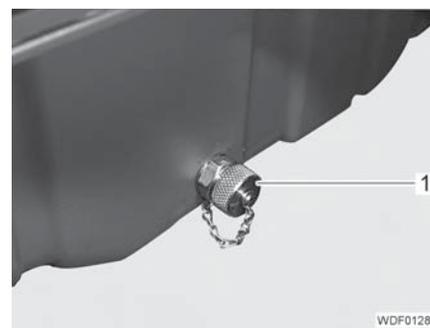

Fig. 34 Oil drainage valve
- Screw in and tighten the oil drainage valve (Fig. 34,1) with the copper seal.